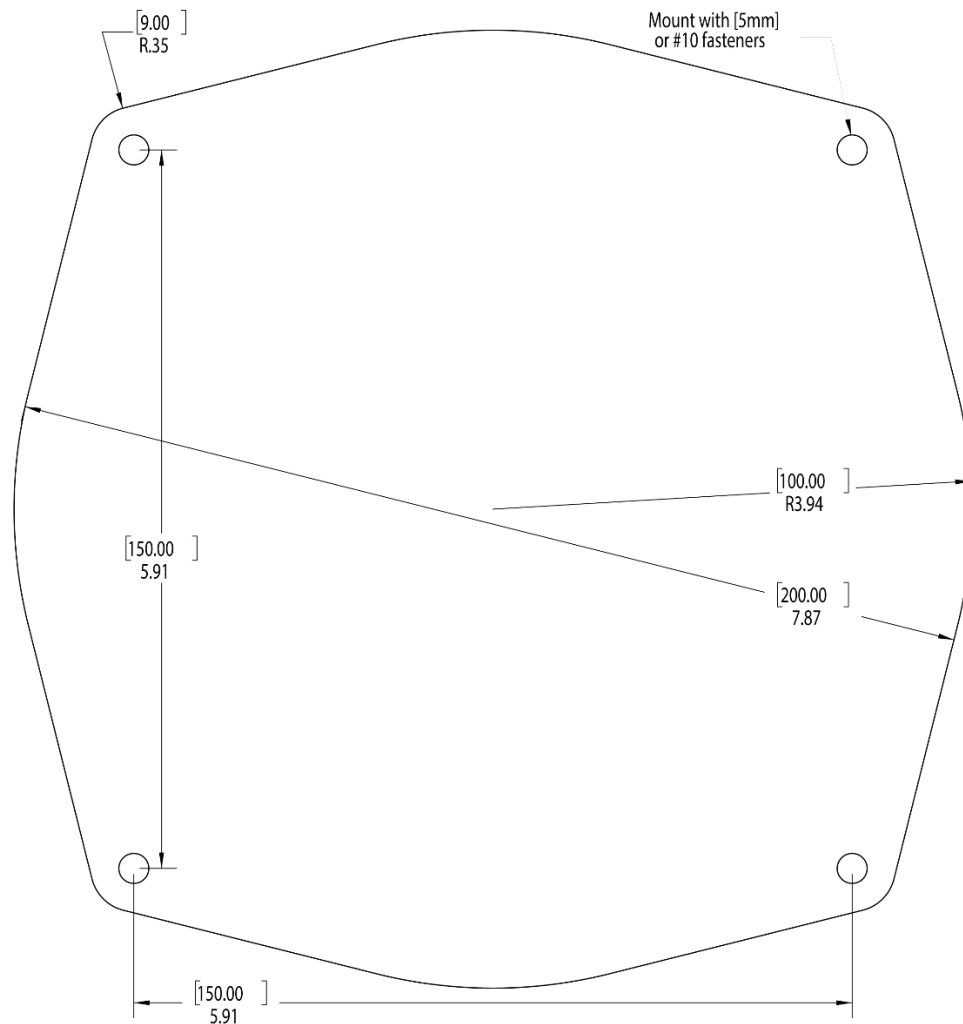

Figure 2-1 Night Scan Spot Mounting Hole Pattern
4. Use the Night Scan Spot as a template to drill four holes in the desired mounting location or use the mounting hole pattern (Figure 2-1). Ensure the Night Scan Spot remains level during drilling.